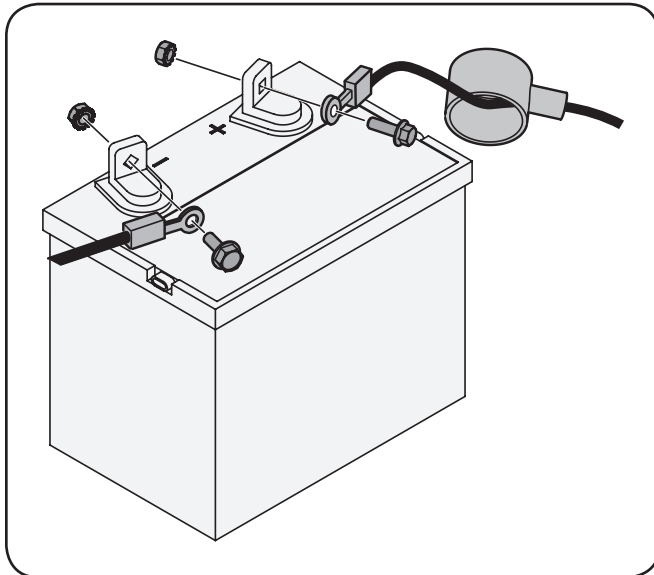

Figure 3-3
1. Remove the plastic cover, if present, from the positive battery terminal and attach the red cable to the positive battery terminal (+) with the bolt and hex nut. See Fig. 3-3.
2. Remove the plastic cover, if present, from the negative battery terminal and attach the black cable to the negative battery terminal (-) with the bolt and hex nut. See Fig. 3-3.